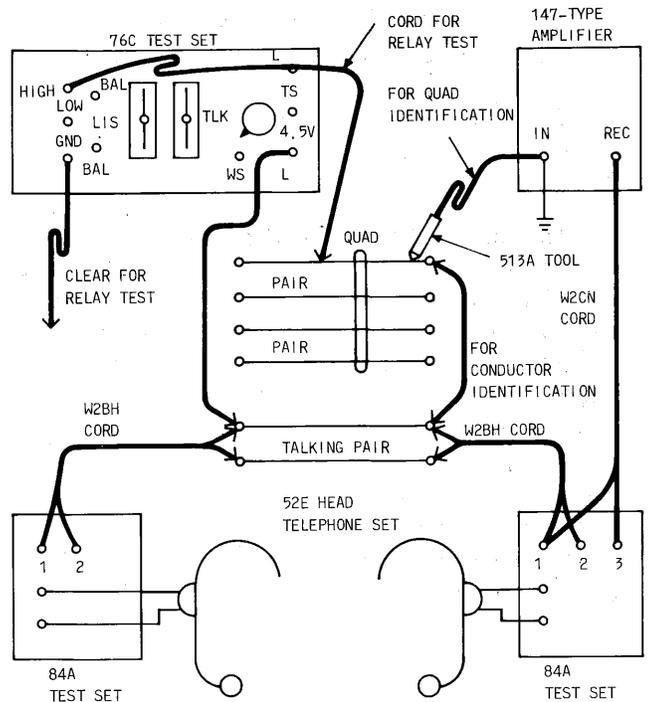

Fig. 5—Nongrounded Tone and 147-Type Amplifier
2.09 The relay test for identifying individual wires can be combined with the nongrounded HIGH tone and a 147-type amplifier to identify quads or pairs in a toll cable. The circuit arrangement shown in Fig. 5 illustrates standard headsets used for the talk circuit in long cables.